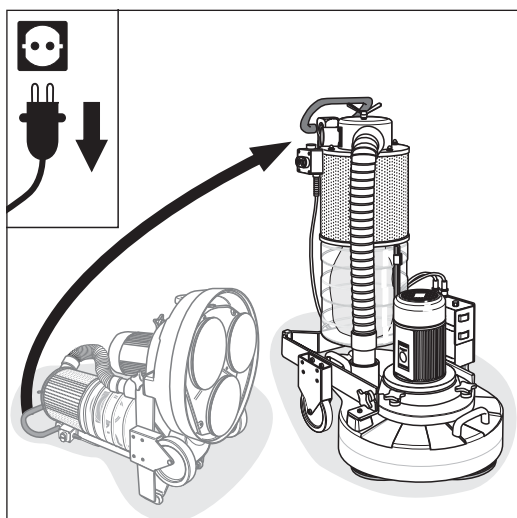

Fig. 7 Bring the machine back into vertical position.
- 5 Bring the machine back into vertical position so that the sanding plates are resting flat on floor surface (fig. 7).